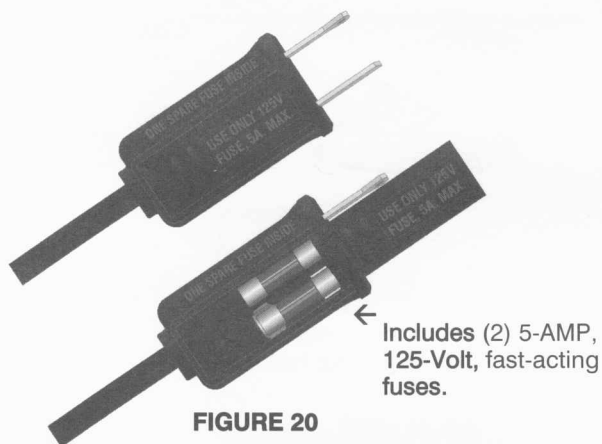

FIGURE 20
Notice the new Fused Plug on the Humidistat Power Cord in Figure 20. In the event of damage to the cord, or a direct lightning strike, the fuse in the plug will “blow out” and prevent the flow of electricity through the power cord, thus preventing any further damage. The plug contains two 5-AMP, 125-Volt glass fuses. If the green POWER light is not on, advise the piano owner to unplug the System and inspect the cord for damage. If there is no damage, remove the fuse from the brass clips inside the plug and replace it with the spare fuse in the plug. If the cord is damaged, the Humidistat should not be plugged into an electrical outlet. Call our technical support number for instructions, (800) 438-1524 or (828) 692-8271.